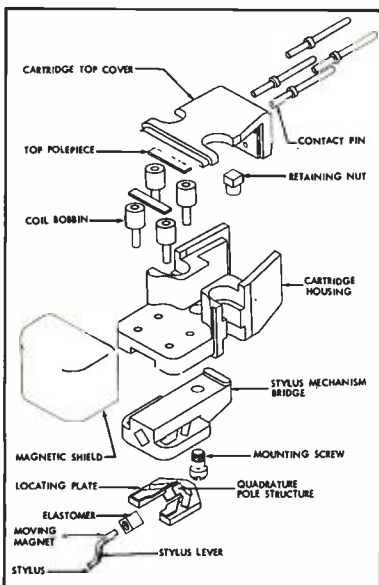

Fig. 1. Exploded view of the pickup.
Now to turn to Figs. 1 and 2 and an explanation of this form of a compatible stereophonic sound system. Referring first to Fig. 1, the circuits between the microphone pickups and their corresponding radio or TV transmitters are
Fig. 1. (below) Block schematic of Precedence system for two channels. Fig. 2 (right) The same system may be expanded to permit transmission of three compatible channels.
The Audio-Empire moving magnet pickup contains four vertical poles which mount coils as seen in Fig. 1. These vertical poles are mated with a quadrature pole structure, (A) in Fig. 2, designed to develop independent outputs from  $F_1$  and  $F_2$  modes of motion.